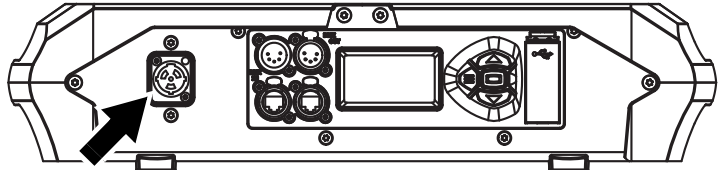

Figure 7: Mains input socket
2. See Figure 7. line up the keys in the power input cable's TRUE1 (TOP) connector with the keyways in the MAINS IN socket (arrowed). Insert the connector into the socket and twist clockwise to engage. If the connector seems difficult to twist, remove it from the socket, check that you have lined up the keyways correctly and try again – do not use excessive force. Make sure that the connector latch clicks and that the connector is locked into the socket.